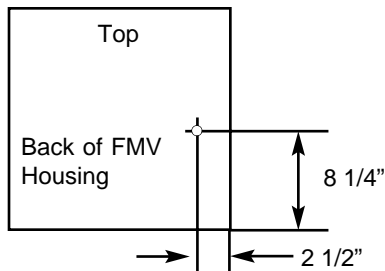

Figure 4
- For FMV floodlights the V2PC photocell should be mounted in the location on the back of the FMV housing in the location shown in Figure 4.
- Drill an 11/16" diameter hole at the location identified in Figure 4. Make sure opening is clean and smooth with no sharp edges.